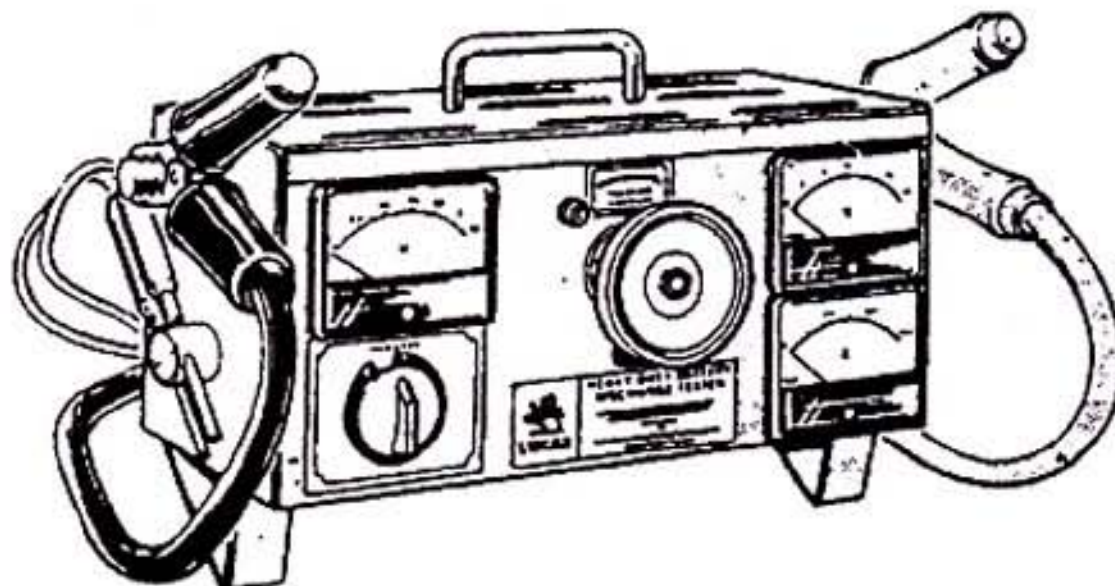

Fig. 2 Heavy duty battery discharge tester
4. Heavy duty battery discharge tester (Fig. 2).